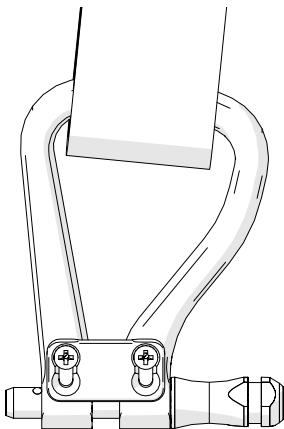
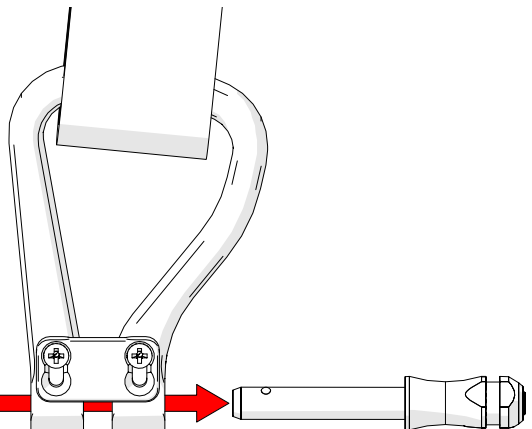

Fig. 10 - Press release button
Fig. 11 - Pull pin from
2. Simultaneously press the pin's release button (Fig. 10) and pull the pin from the shackle (Fig. 11).